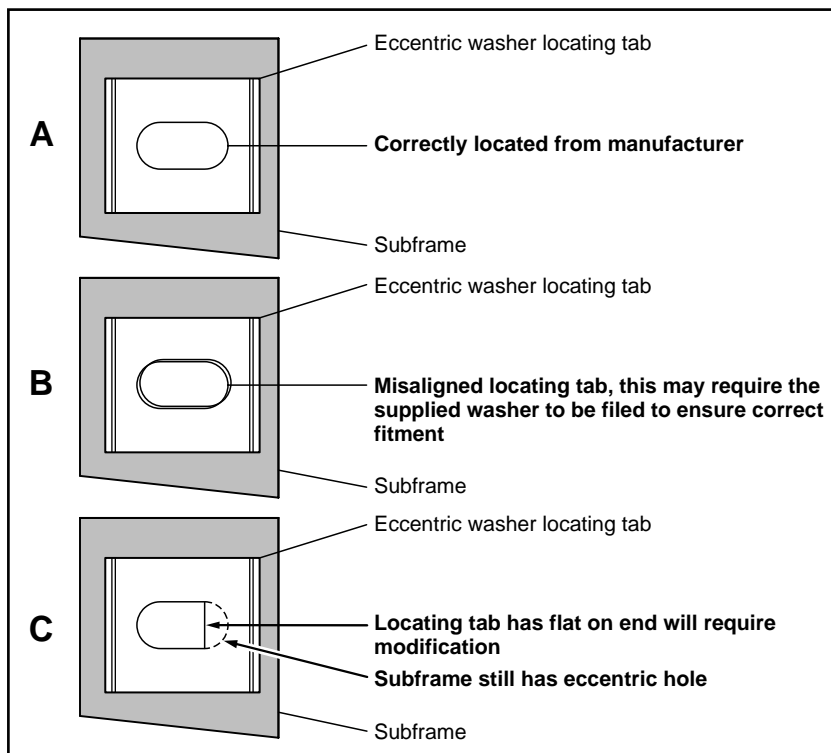

Fig.3
3. Inspect elongated hole for fitment of supplied offset locking washer refer Fig.3
(C) If it is determined that the end of the elongated hole has the flat section as per Fig.3 image C, then it is necessary to radius the elongated slot to accept the locking washer which would allow for the correct bump steer characteristics.
FOR FITMENT VIA FIG.3 SECTION C – modification required.